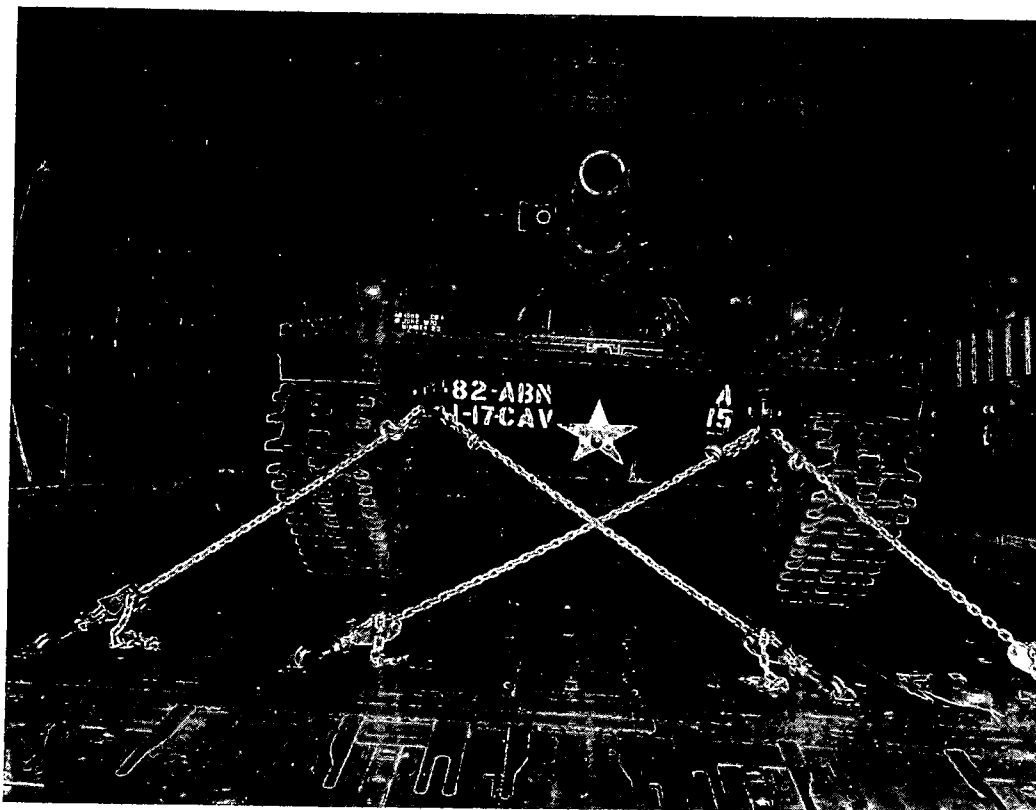

Figure 2-26. Tiedown of M551 ARAAV.
b. *Procedure.* Tie down all items in accordance with the instructions in tiedown data table 2-5 and figures 2-26 through 2-28.